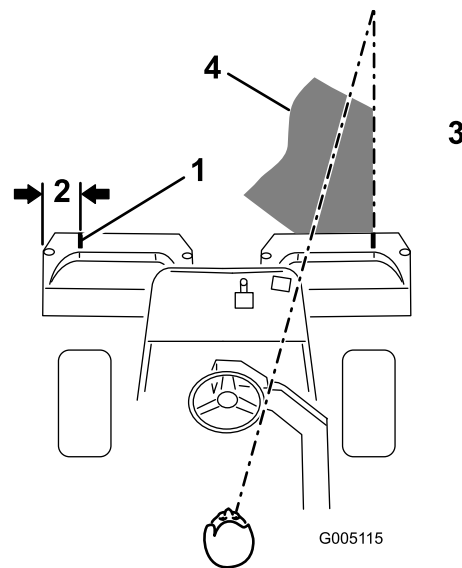
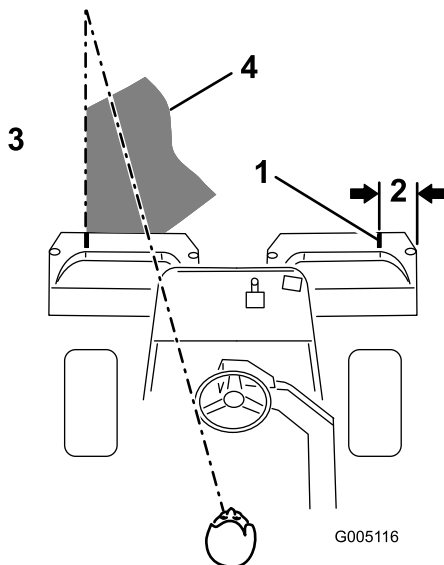

Figure 31
Figure 32
2. Either place a strip of white tape or paint a line onto each basket paralleling the outer edge of each basket (Figure 31).
3. Overlap a minimal amount with the previous cut on return passes. To assist in maintaining a straight line across the green and keep the machine an equal distance from the edge of the previous cut, establish an imaginary sight line approximately 6 to 10 ft (1.8 to 3 m) ahead of the machine to the edge of the uncut portion of the green (Figure 31 and Figure 32). Some find it useful to include the outer edge of the steering wheel as part of the sight line; i.e. keep the steering wheel edge aligned with a point that is always kept the same distance away from the front of the machine (Figure 31 and Figure 32).